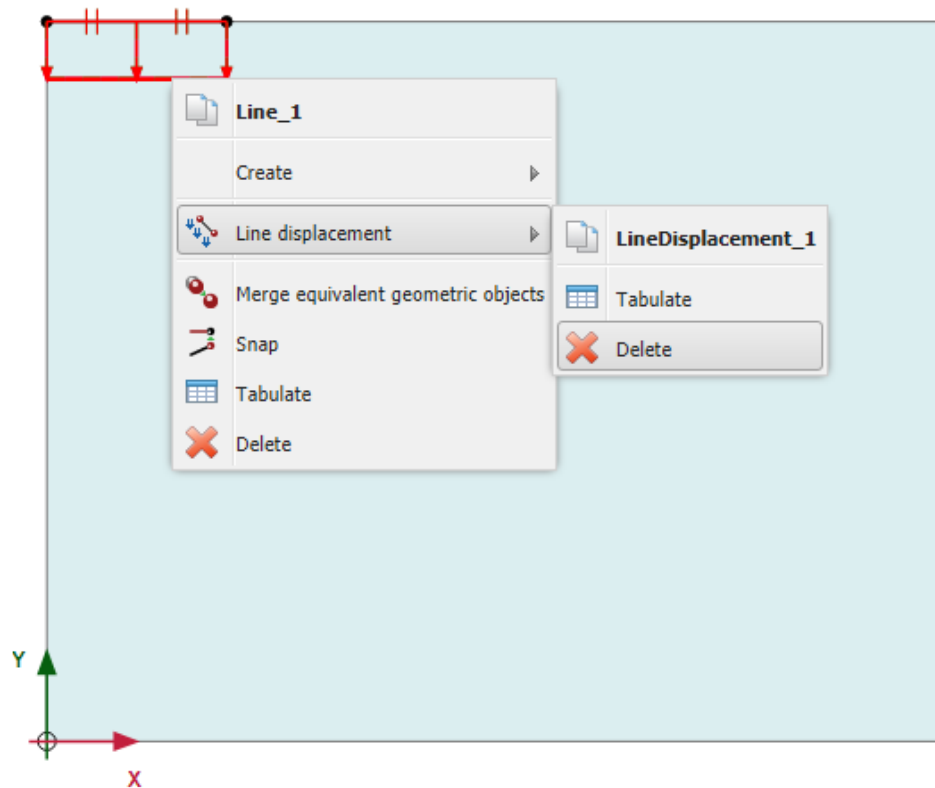

Figure 21: Delete the line displacement option
3. Right-click the prescribed displacement and select **Line displacement > Delete** as shown in Figure 21 (on page 31).